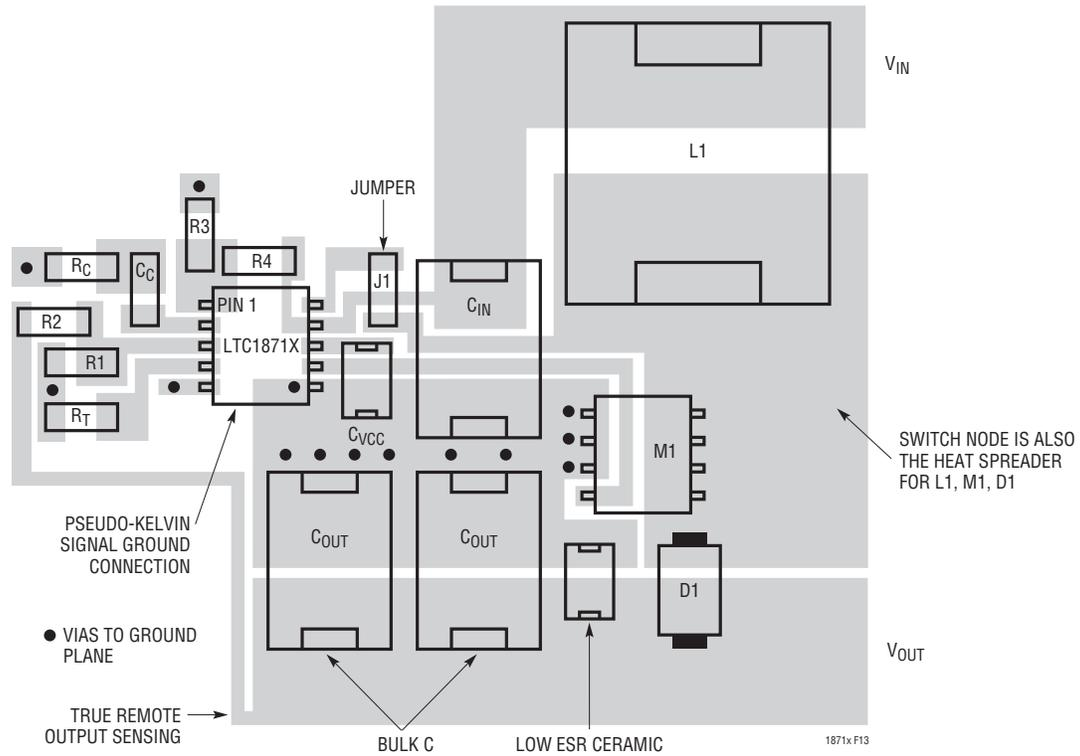

Figure 13. LTC1871X Boost Converter Suggested Layout
- Place the small-signal components away from high frequency switching nodes. In the layout shown in Figure 13, all of the small-signal components have been placed on one side of the IC and all of the power components have been placed on the other. This also allows the use of a pseudo-Kelvin connection for the signal ground, where high di/dt gate driver currents flow out of the IC ground pin in one direction (to the bottom plate of the INTV_{CC} decoupling capacitor) and small-signal currents flow in the other direction.